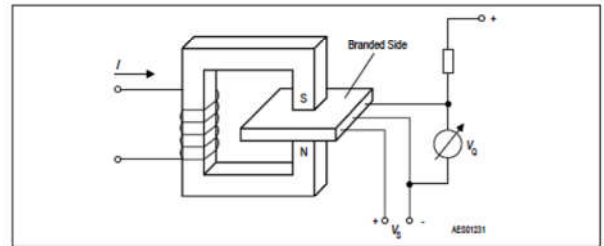

Figure 5 Sensor/Magnetic-Field Configuration
**Functional Description Bipolar Type TLE4935/45/45-2 (Figure 5 and 6)**
When a positive magnetic field is applied in the indicated direction (Figure 5) and the turn-on magnetic induction  $B_{OP}$  is exceeded, the output of the Hall-effect IC will conduct (Operate Point). The output state does not change unless a reverse magnetic field exceeding the turn-off magnetic induction  $B_{RP}$  is exceeded. In this case the output will turn off (Release Point; Figure 6).